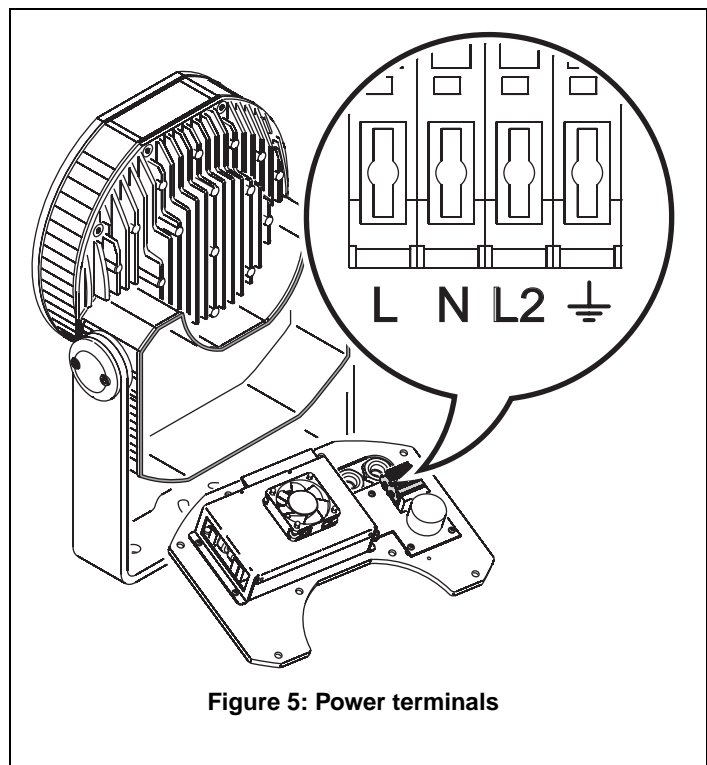

Figure 5: Power terminals
6. See Figure 5. Connect the conductors in the new cable to the spring-loaded power terminals in the rear cover as follows: